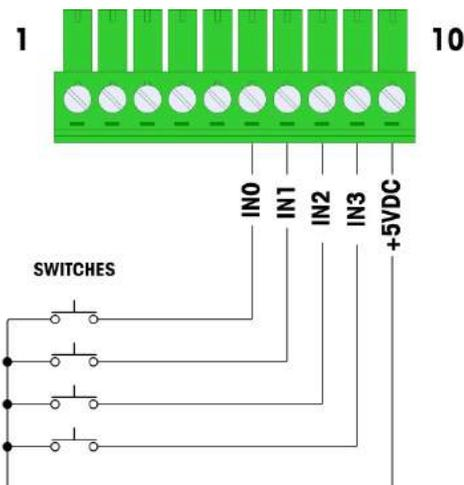

Figure A-85: Example of Active Input from Switches
Selecting the inputs as active enables connection of switches or other simple devices to trigger an input. No voltage is supplied by the external simple device. An example of how to wire to the active inputs is shown in Figure A-85. Note that pin 10, the +5VDC connection, can carry no more than 200 mA current.
- The +5VDC shown in Figure A-85 is referenced to an internal ground inside the discrete I/O card. Measuring from pin 10 to the IND780 chassis ground will **not** show +5VDC. The +5VDC output is used internally, and has no function except for digital inputs as shown in Figure A-85.